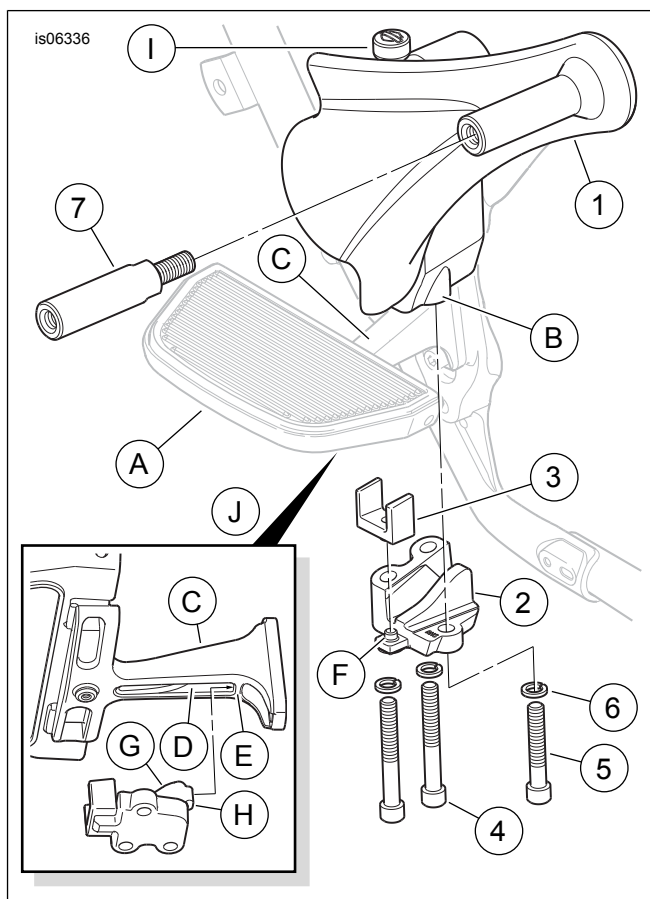

Figure 1. Service Parts, Adjustable Auxiliary Passenger Footpeg Mount Kit (Right Side Shown)
See Figure 1 and Table 1.
2. See Figure 1. Disassemble the lower clamp (2) from the upper clamp (B) on the adjustable arm assembly (1).
- a. Place the stop pad (3) onto the peg (F) of the lower clamp.
- b. Position the lower clamp around the underside of the passenger footboard mount (C).
- c. Insert the rib (G) of the lower clamp into the slot (D) in the underside of the passenger footboard mount.
- d. Slide the lower clamp toward the motorcycle until the boss (H) on the lower clamp contacts the rib (E) on the underside of the passenger footboard mount.